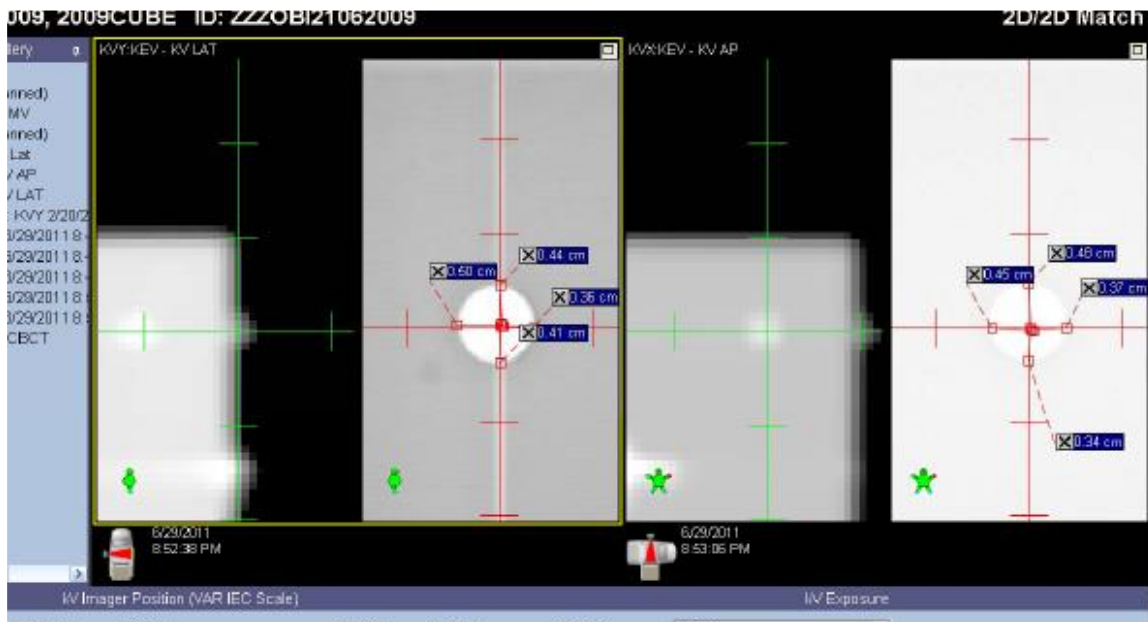

Figure 2: Screen image of residual difference measurements.
4. Once the phantom is aligned with the imaging isocenter, orthogonal kV images (AP and left Lat) should be taken of the phantom. Using the measurement tools in the imaging software, measure, as best as you can, the residual difference between the imaging isocenter and the edge of the ball bearing in each of the four directions and record the values on the data sheets included with these instructions. This residual difference measurement can be difficult due to the fuzziness of the ball bearing edge. You can try to adjust the contrast/ resolution/ window level to identify the edge better. Be sure to capture the correct orientation/direction of the residual difference. If possible, take screen captures or pictures of the screen to document the residual differences. An example of this is shown in Figure 2.